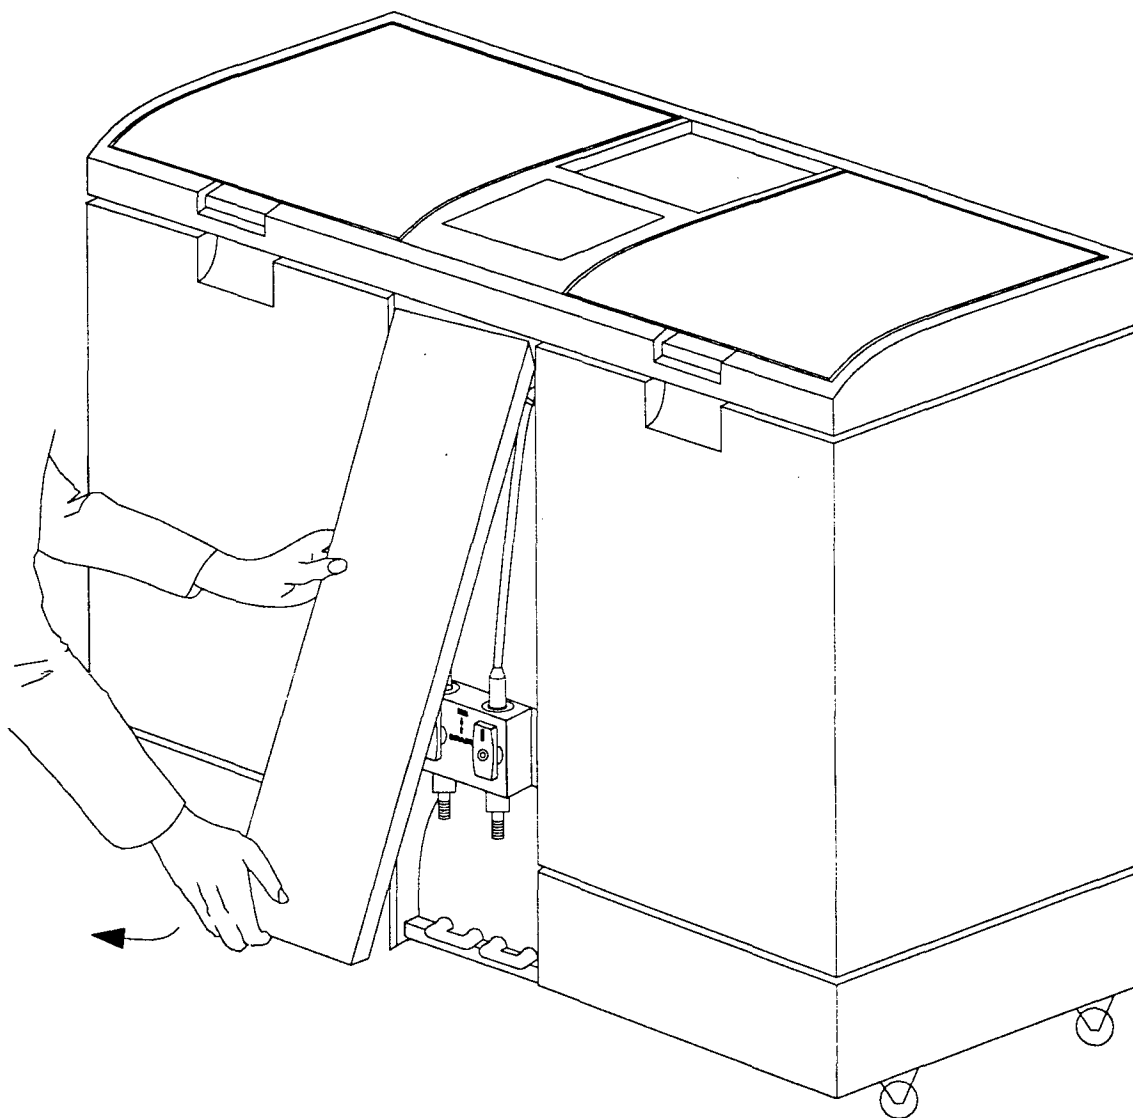

figure 6
1. Remove the FRONT PANEL by pulling the bottom edge out to gain access to the SERVICE KEYBOARD (see figure 6).
1. Remove the FRONT PANEL (see figure 6).